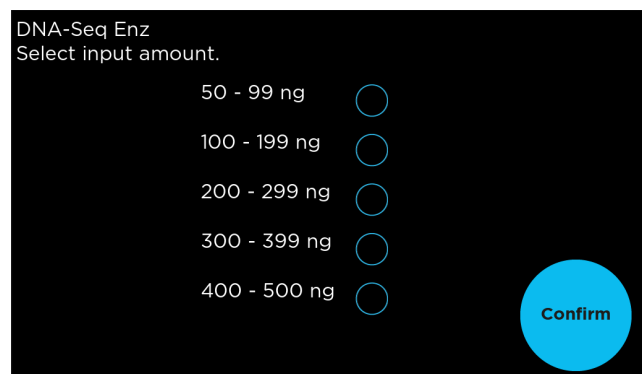

Figure 12. Input range definition.
7. Select the optimal number of PCR cycles for your input. The recommended number of PCR cycles will be populated based on your sample input quantities (Table 2). You may adjust the number of PCR cycles to suit your particular samples (Figure 12).